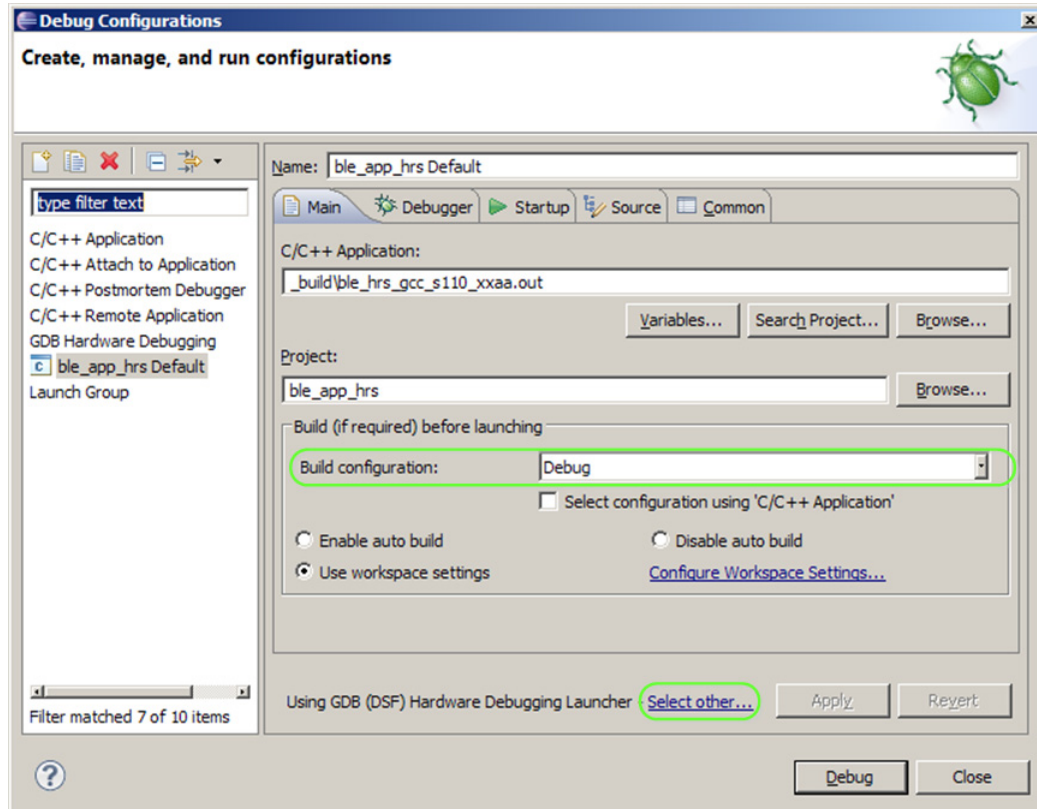

Figure 3 Debug configuration
8. Click **Select other** and change the preferred launcher to **GDB (DSF) Hardware Debugging Launcher**. See *Figure 3*.